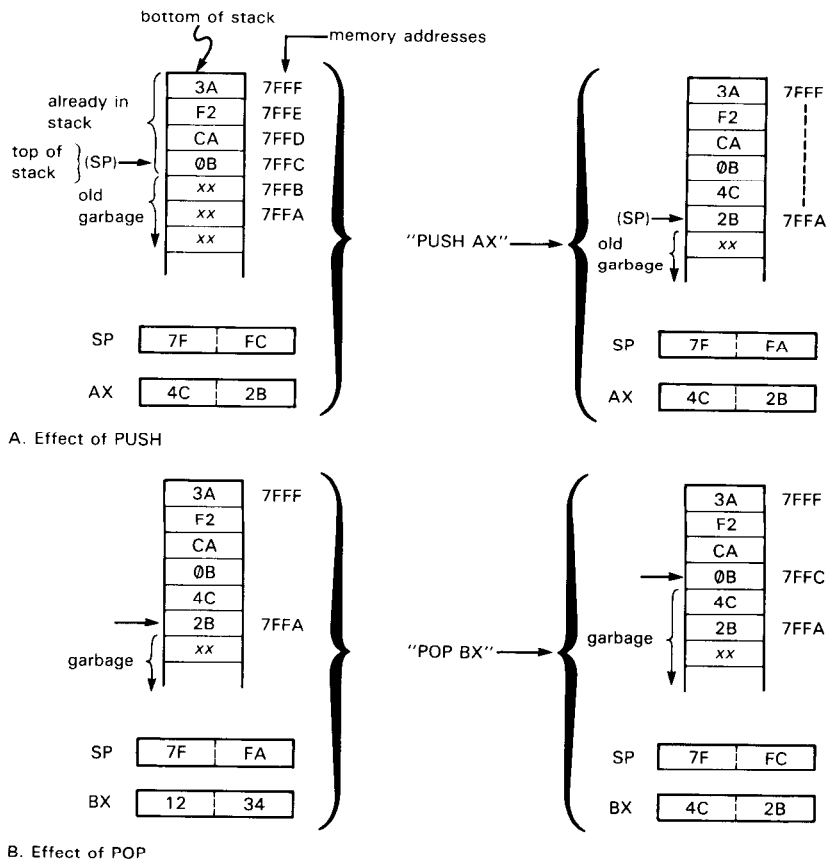

Figure 10.4. Stack operation.
Figure 10.4 shows how it works. The stack lives in ordinary RAM, with the CPU's *stack pointer* (SP) keeping track of the location of the current "top" of the stack. The 8086 stack holds 16-bit words and grows *down* in memory as you push data onto it. The SP is automatically decremented by 2 before each PUSH, and incremented by 2 after each POP. Thus, in